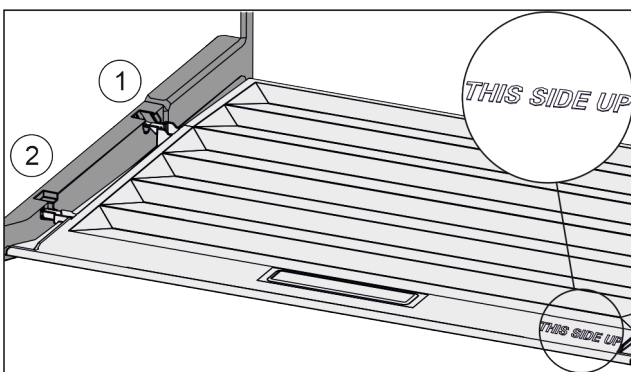

Fig. 157
- ▶ Insert the lip of the cover over the opening of the rear bracket Fig. 157 (1) and click into place Fig. 157 (2).